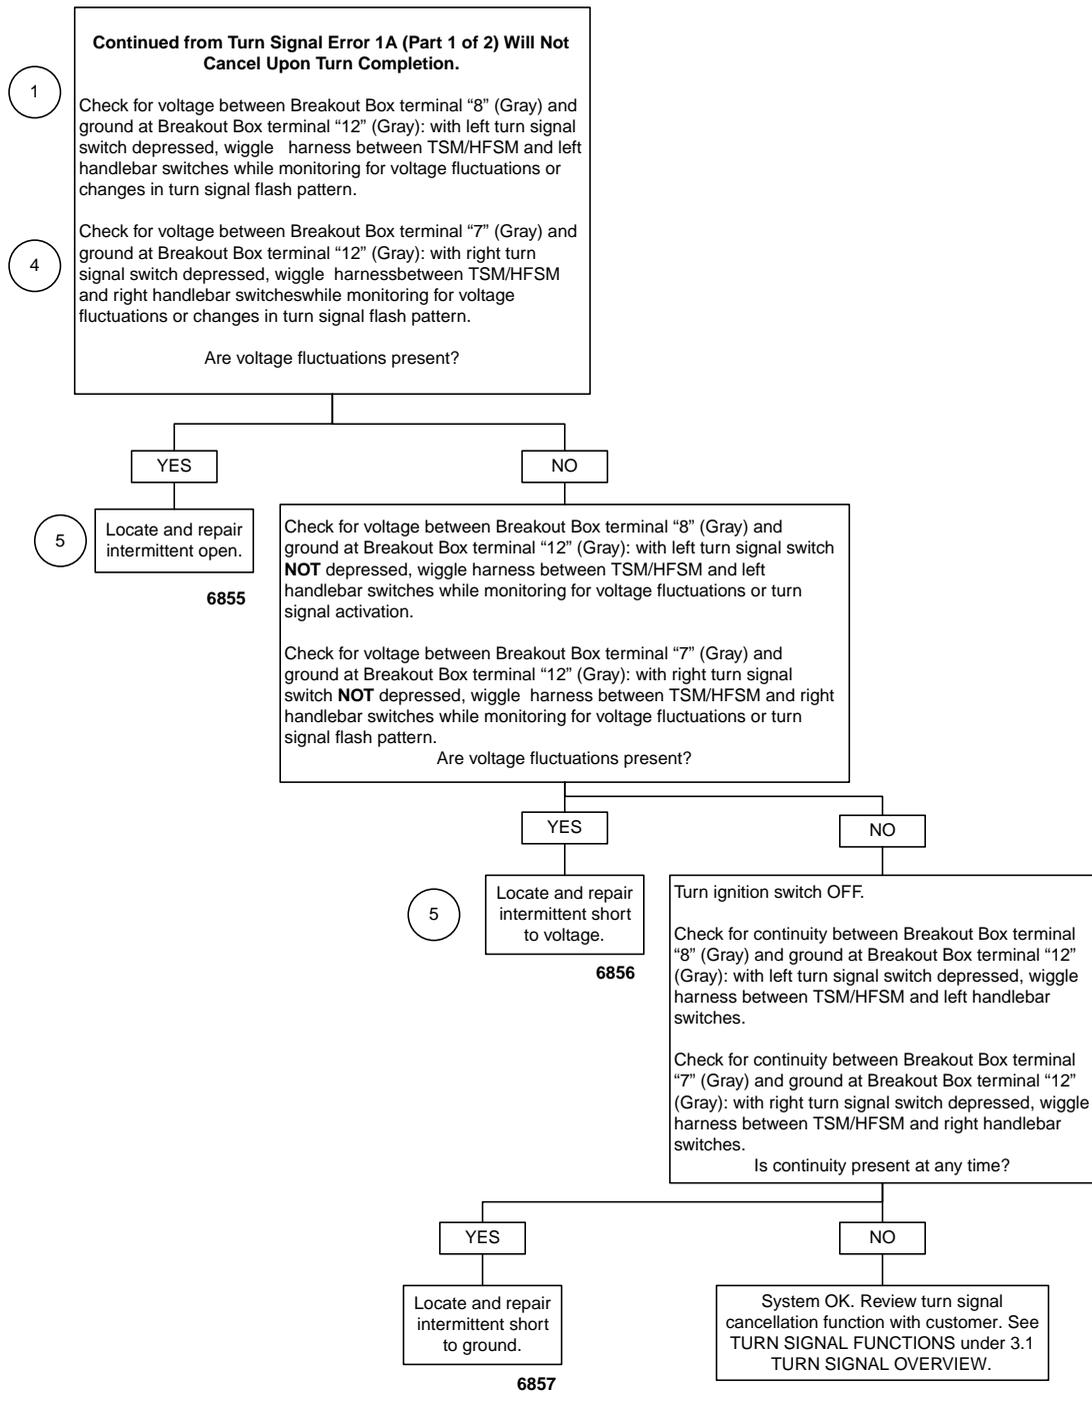

Figure 3-22. Tilting: TSM/HFSM
- a. See Figure 3-22. Position TSM/HFSM in same orientation it is mounted on vehicle. Turn Ignition Switch on. Turn 4-way flashers on by depressing both left and right turn signal switches simultaneously. Turn Ignition Switch off; 4-way flashers should continue to flash.